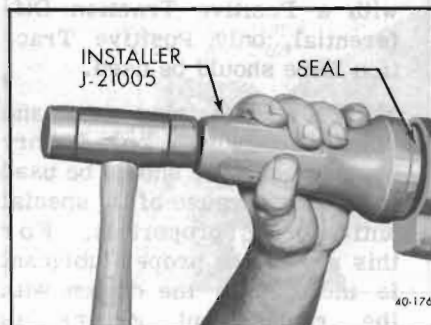

Figure 40-165—Installing Pinion Seal
6. Install new "O" ring seal on pinion. Coat O.D. of new pinion seal with sealing compound and install seal using Installer J-21005. See Figure 40-165.